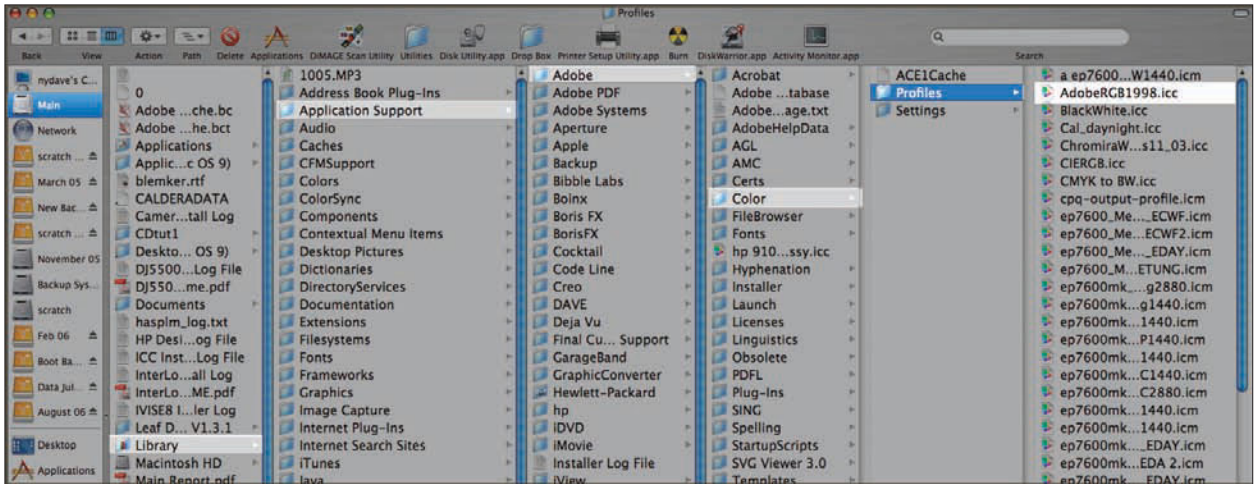

Figure 8.13
- In Mac OS, copy profiles into the /Library/Application Support/Adobe/Color/Profiles/. You can also copy profiles into the /Users/username/Library/ColorSync/Profiles folder (see Figure 8.13).